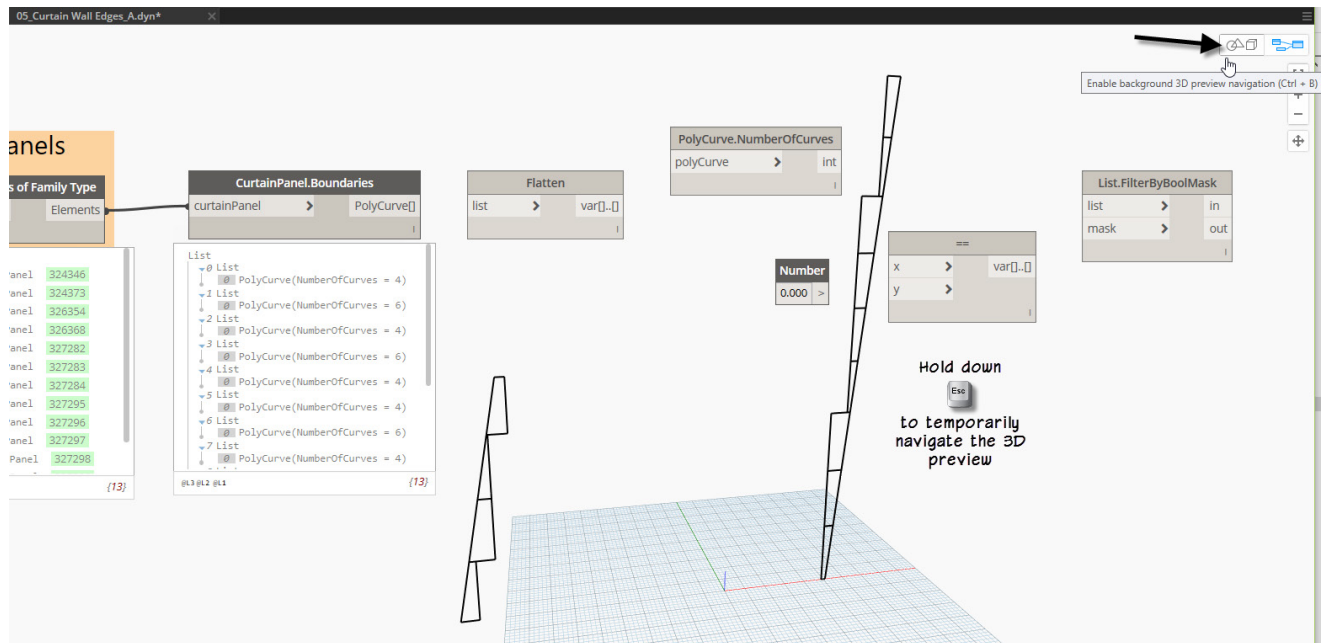

FIGURE 96
19. Toggle the 3D preview again³⁴ (see Figure 96).